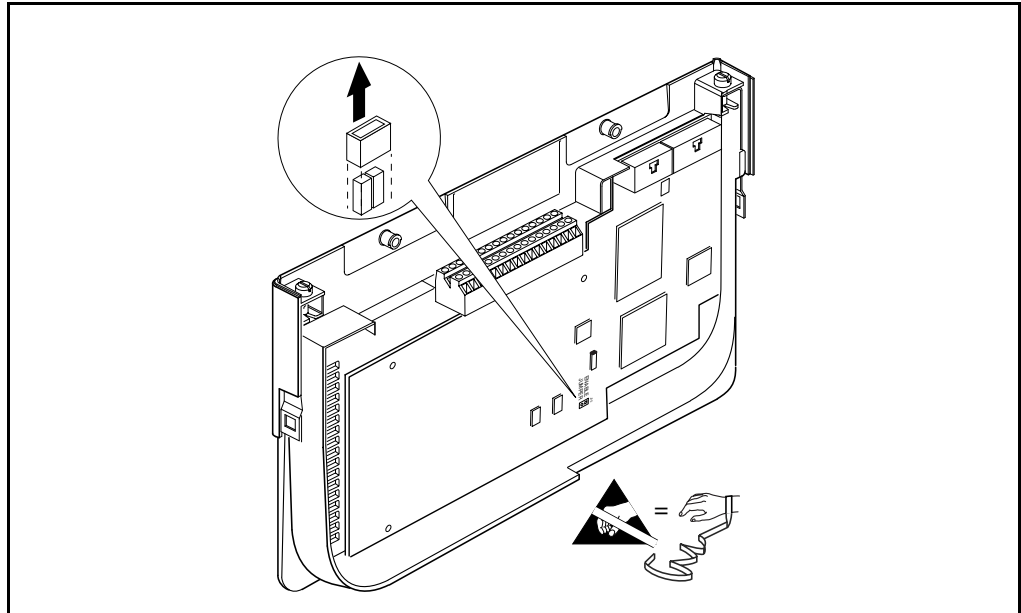

Figure 6.1 – Hardware Enable Circuitry
The terminal block Drive Enable input and the Function Loss input, if configured, are always active. This is independent of the Logic Source Select setting. The terminal block Stop input must be closed only when the terminal block is selected as the logic source. Refer to figure 6.1.
Any of the six (6) digital inputs can be programmed as an Enable input. The status of this input is interpreted by drive software. If the application requires the drive to be disabled without software interpretation, a dedicated hardware enable configuration can be utilized. This is done by removing a jumper and wiring the enable input to Digital In 6. Refer to figure 6.1.